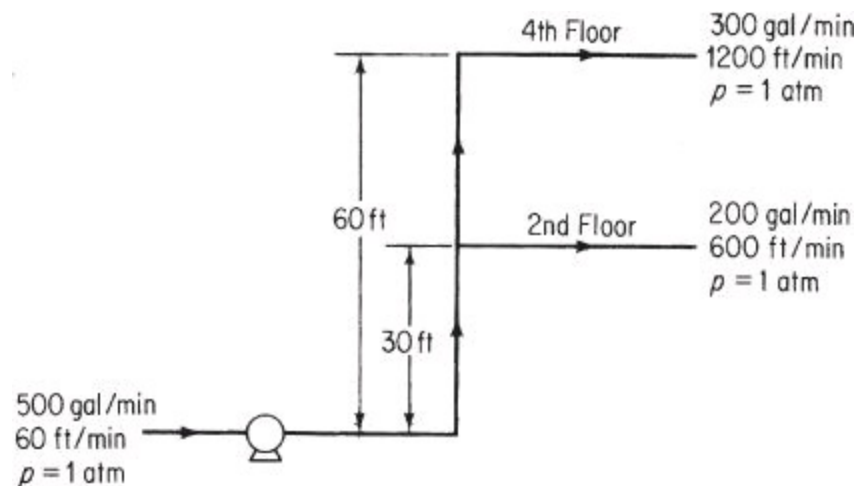

Figure P14.14
- *14.14. An office building requires water at two different floors. A large pipe brings the city water supply into the building at the basement level, where a booster pump is located. The water leaving the pump is transported by smaller insulated pipes to the second and fourth floors, where the water is needed. Calculate the *minimum* amount of work per unit time (in horsepower) that the pump must do in order to deliver the necessary water, as indicated in Figure P14.14. (*Minimum* refers to the fact that you should neglect the friction and pump energy losses in your calculations.) The water does not change temperature.